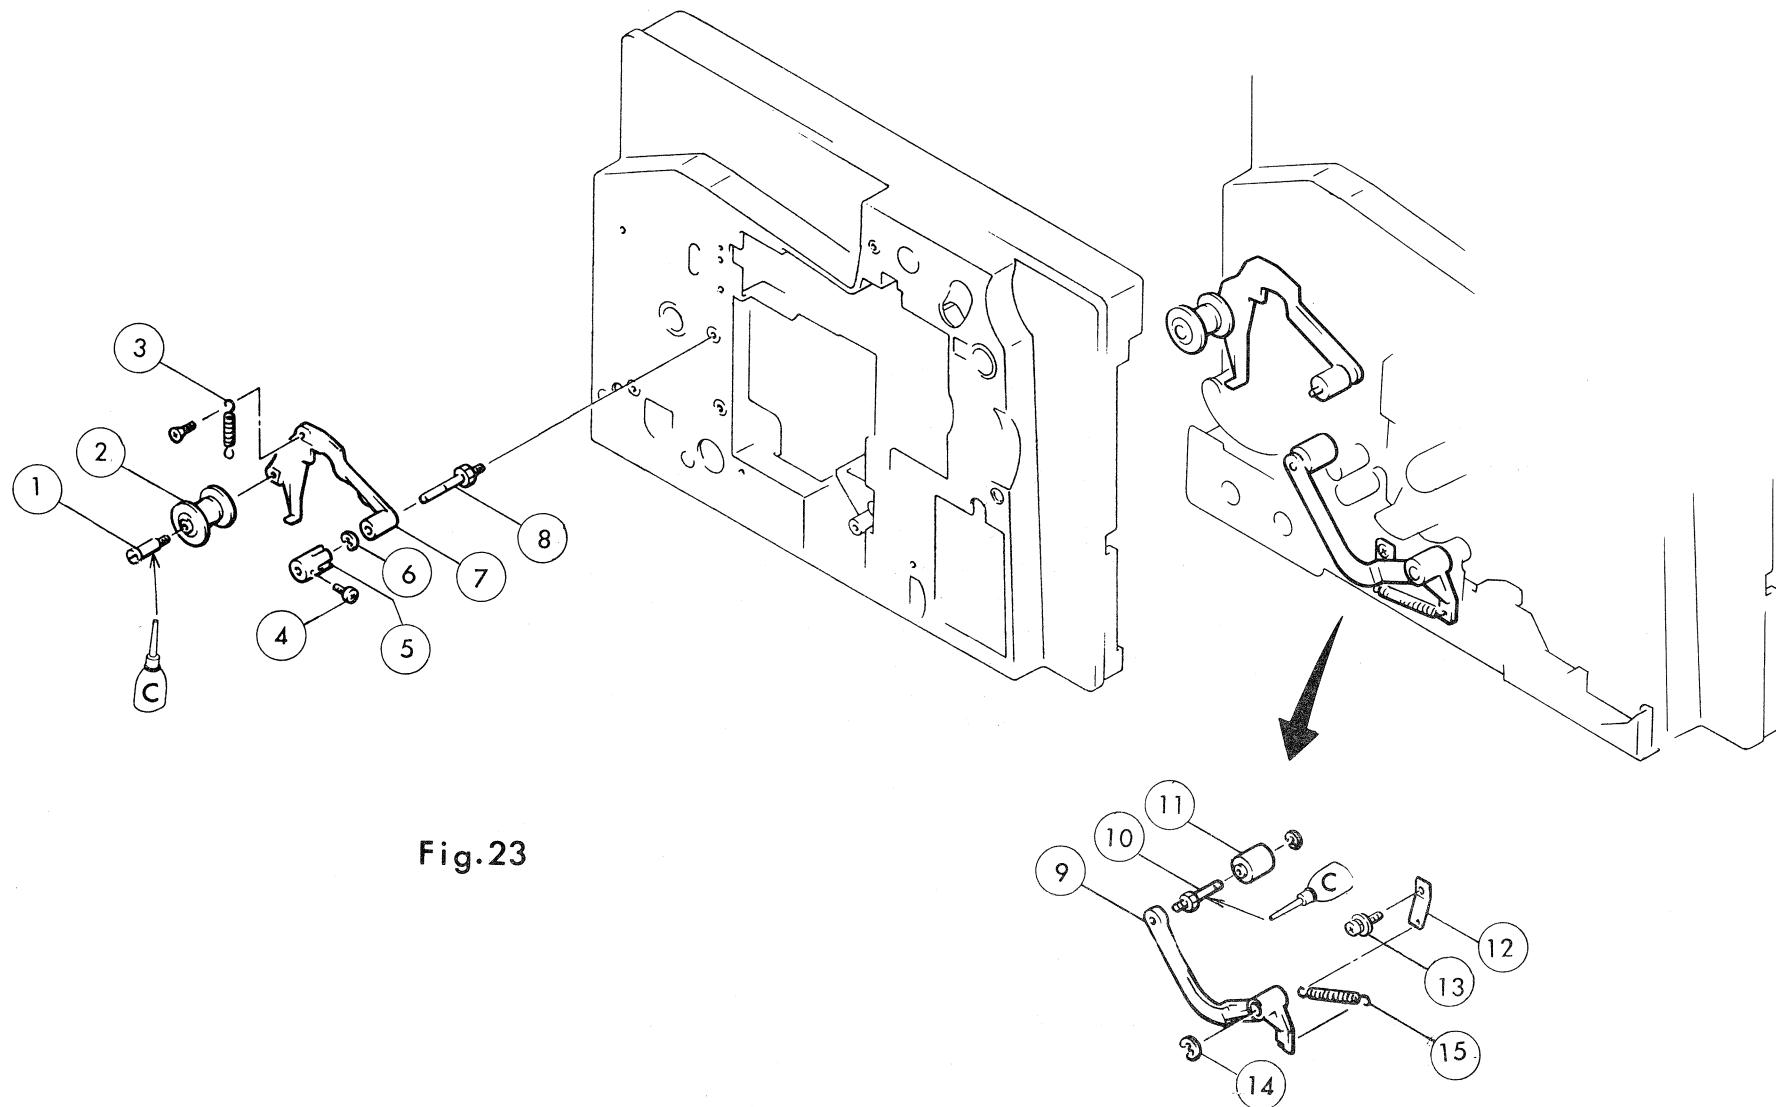
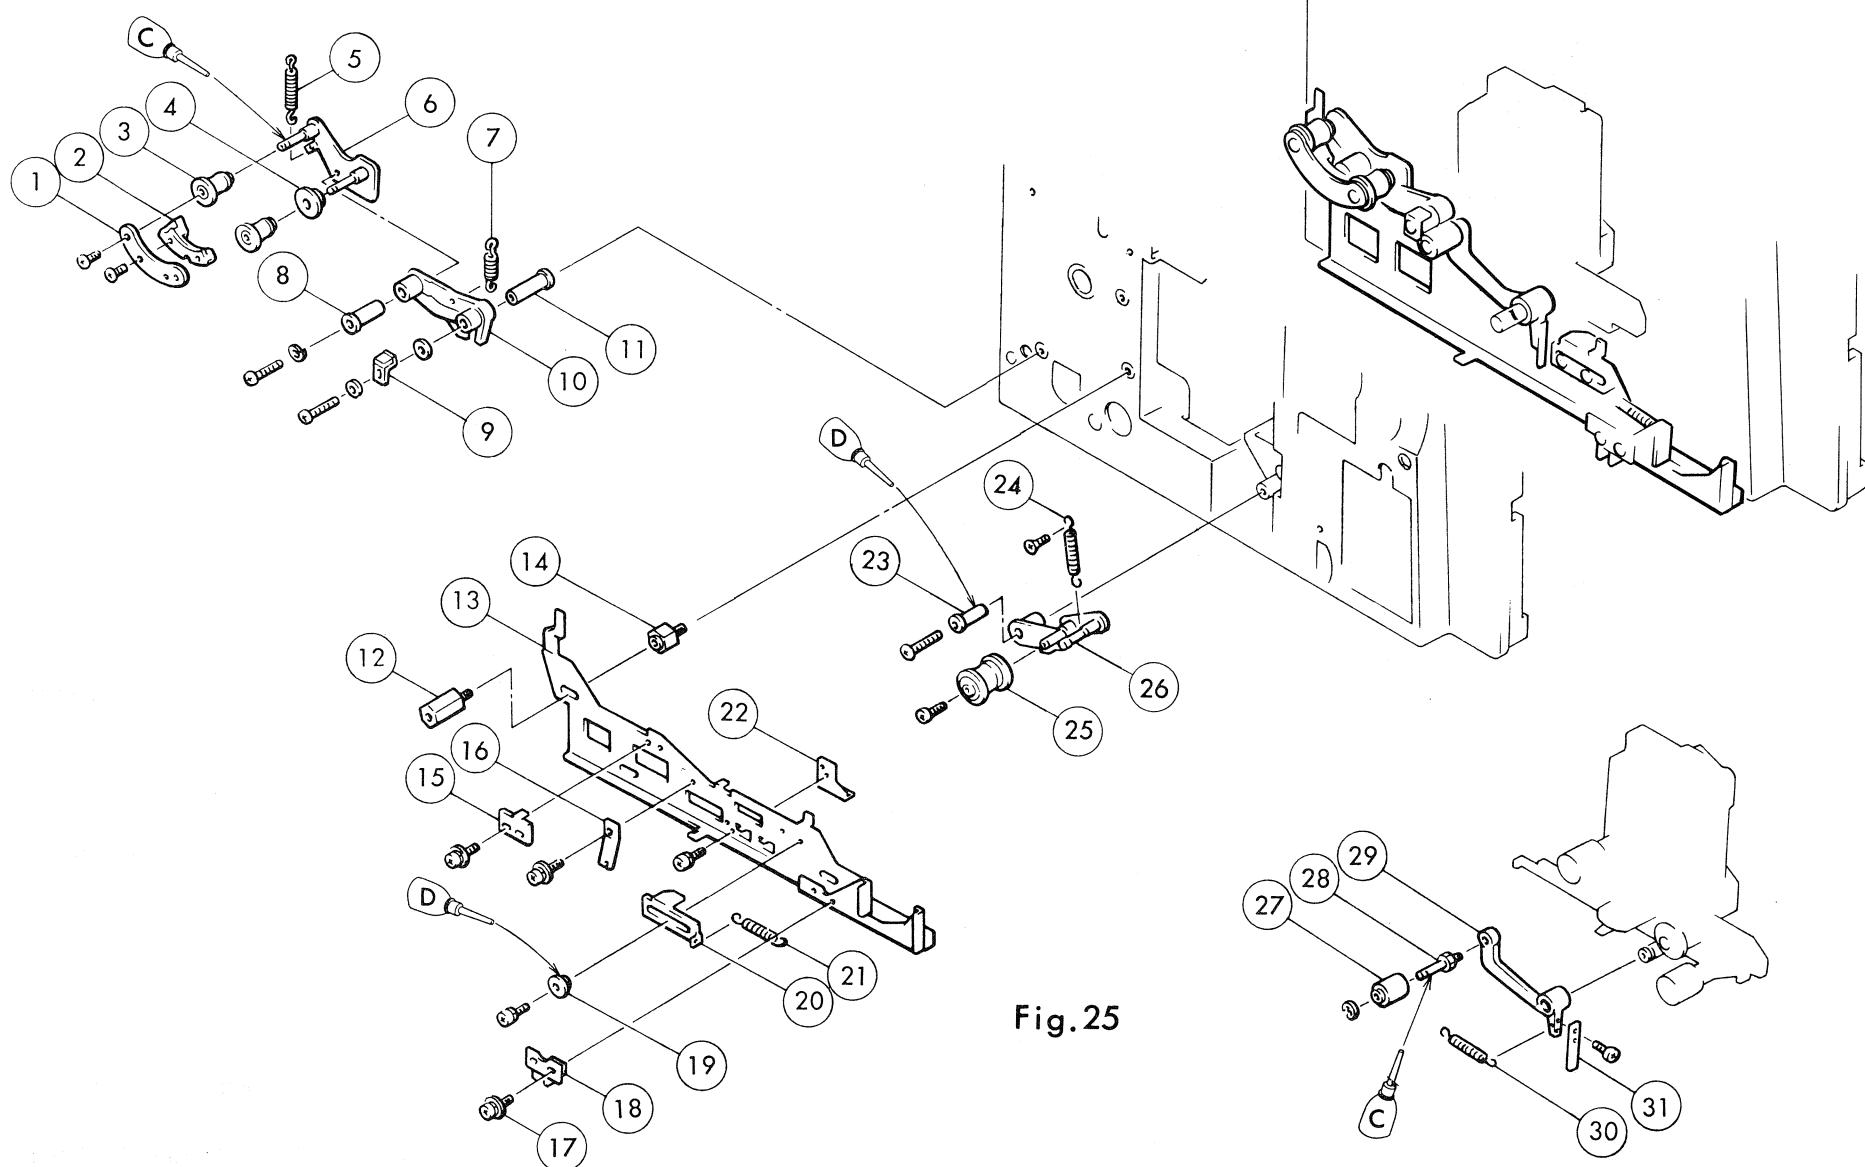

Fig.23
Fig. 25
1. Unscrew ④ to remove ⑤.
2. Remove ③ from the base main body side, and remove ⑥ before removing ⑦.
3. Remove ⑯ from ⑬, and then remove ⑭.
4. Refer to Fig. 23 for further disassembly.
1. Remove the lever middle tension. (See Fig. 23.)
2. Take out ⑫ before removing the ⑬ assy parts and then the ⑯ assy parts.
3. Refer to Fig. 25 for disassembly of ⑬ and ⑯.
4. Unscrew ⑭ to remove the ⑮ assy parts.
5. Remove ⑤ and ⑦ from the base main body before removing the ⑩ assy parts.
6. Refer to Fig. 25 for further disassembly.